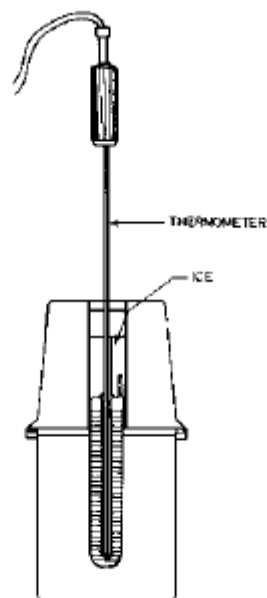

Figure 11. Tempering thermometer leads.
(6) TEMPERING THERMOMETER LEADS (See figure 11). Ice and water may be added through the opening in the cover to surround the top portion of the thermometer well in order to temper the thermometer leads and prevent heat conduction through the leads down into the well. It does not matter if this tempering ice bath spills over the well provided that no ice chips are forced down into the well.